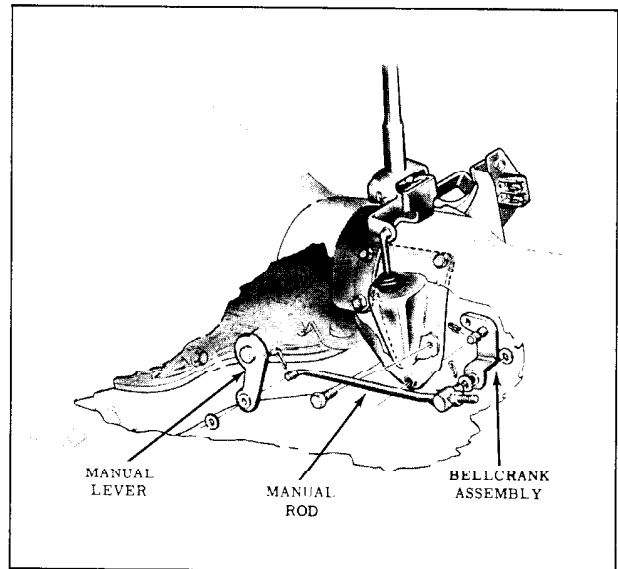

Fig. 12-9 Exploded View of Shift Linkage
4. Lock the adjustment by tightening the rear nut. (Fig. 12-9)